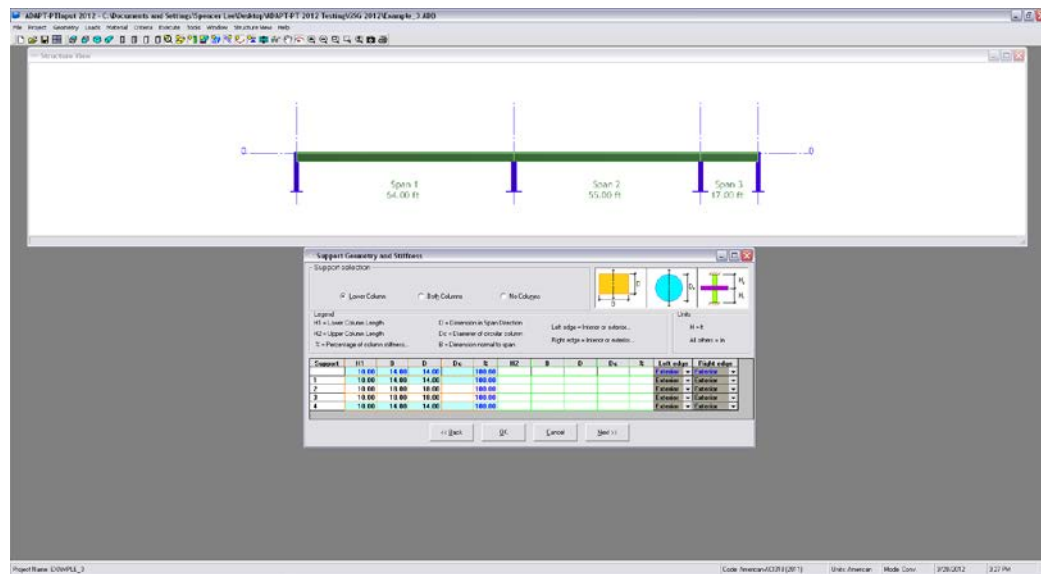

FIGURE 4.2-6
4.2.2.3 Enter Support Geometry (Fig. 4.2-6)
Next, enter the dimensions of the supports. B is the dimension of the column cross- section normal to the direction of the frame. D is the column dimension parallel to the frame. Enter the column dimensions as in **Figure 4.2-6**.